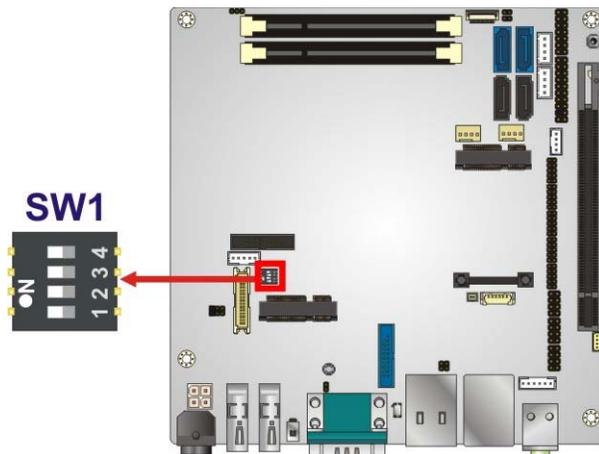

Figure 4-11: LVDS Resolution Selection Jumper Location
- Jumper Location:** See Figure 4-11